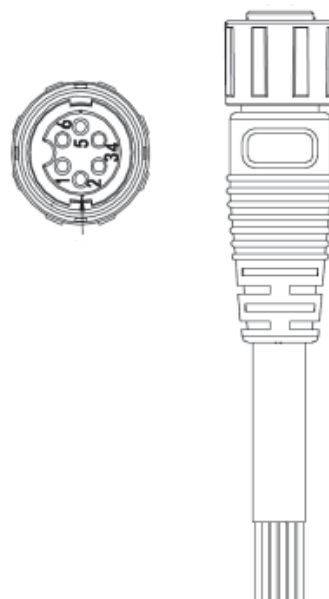

Figure 7.6 Connection cable
- (1) Weld communication cables to the RS485-DRM terminals of the inverter as figure 7.6 shows; Ensure the cable corresponds to the pin as table 7-3 shows and the welding is tight enough. According to Table 7-3, connect the communication connector pinout and the user's device, make sure the connection is correct.